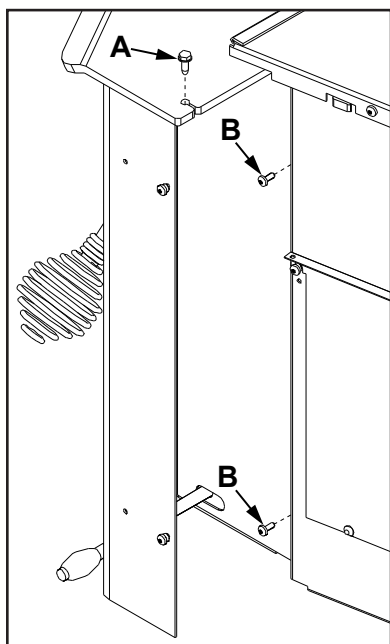

Figure 51: Removal of right pod.
4. Remove the screw, using a $\frac{5}{16}$ " socket or wrench, that goes down through the firebox top into a bent over tab at the top of the shroud (see A in Figure 51).
- b. For the second method (recommended for the right shroud), remove the two (2) T-20 screws that hold the shroud to the unit (see B in Figure 51). Pull the shroud out through the side.